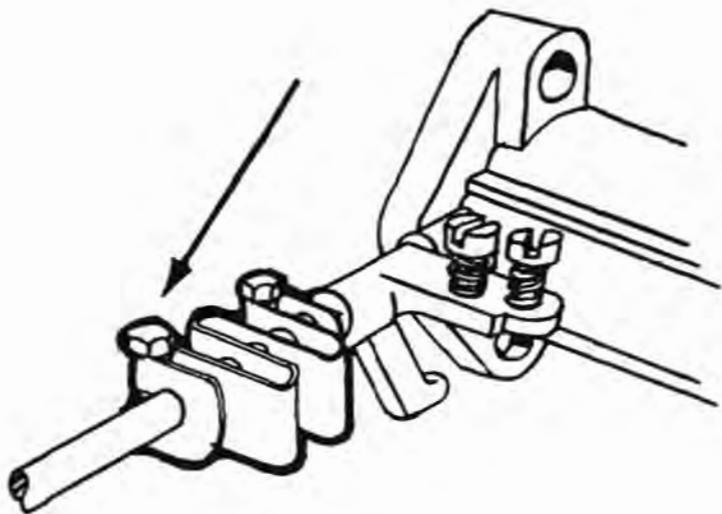

FIG. 39
2. Disconnect the throttle linkage between the two carbs by loosening the nut on the folded clamp. See Figure 39. This permits individual adjustment of the carburetors to bring them into synchronization.
11. Start the engine and allow it to warm up to operating temperature. Release the folded coupling on the throttle spindle connecting rod (Figure 39) preparatory to synchronization.